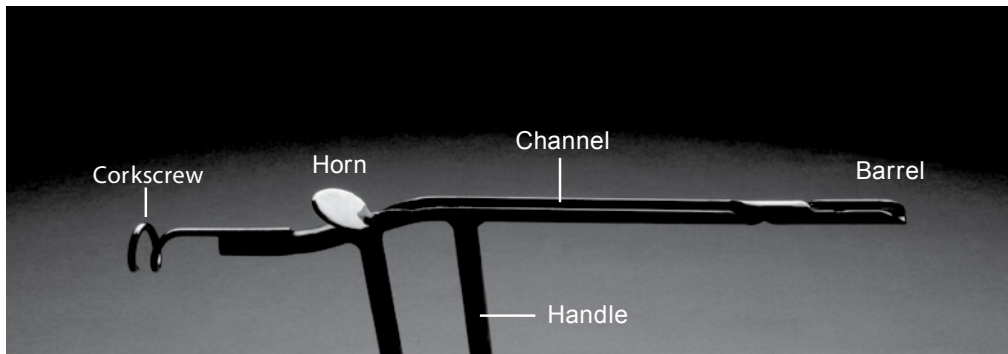

Figure 4-9: The EZ-350 insertion tool
3. Insert the cable into the conduit. For non-split conduit, this is done by tying the pull string to the cable at a point close to one end (if the fiber has already been terminated, do not tie the pull string to the connector itself) and pulling the cable through the conduit. For split conduit, an insertion tool must be used. An EZ-350 Insertion Tool (shown in Figure 4-9) is offered by Fiber SenSys for this purpose